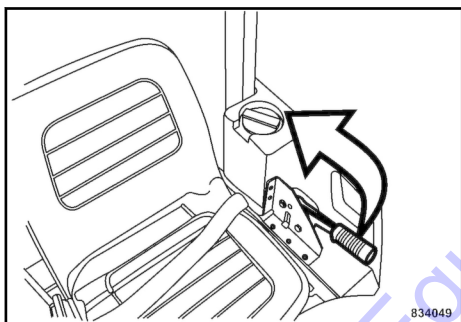

Fig. 108
2. Pull up the parking brake lever. ↪ Fig. 108.